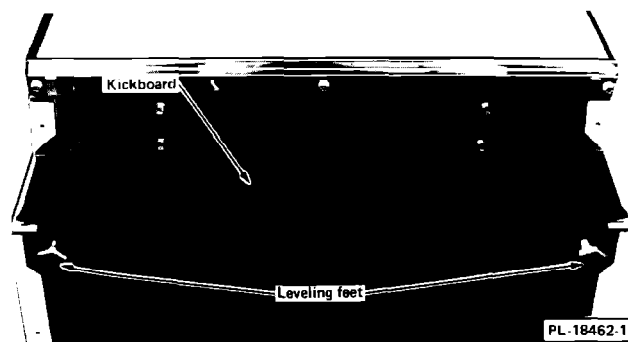

**Fig. 2**
1. Place compactor in front of proposed under-counter location. Slide compactor sideways with enough room to insert 3-pronged plug into the 3-prong wall receptacle (in shaded area of Fig. 2). Make certain that the cord is secured in the clamp at top rear of unit. **NOTE:** If it is desired to change the front panels, you should do it prior to plugging the compactor in. See the separate instruction sheet included.